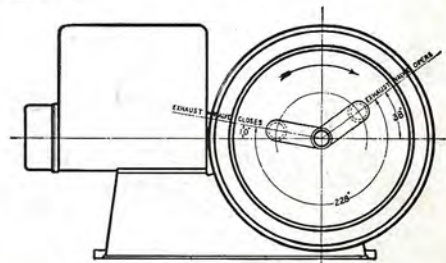

Fig. 2. Showing Valve Setting
**E2. Exhaust Valve Setting.**—For the best results the exhaust valve should begin to open when the crank pin is  $38^{\circ}$  above the outer horizontal center, the piston moving out on the power stroke, and should close when the crank pin is  $10^{\circ}$  above the inner horizontal center, the piston starting to move outward on the suction stroke, that is, the exhaust valve remains open while the crank pin passes through an arc of approximately 228 degrees (See Fig. 2).